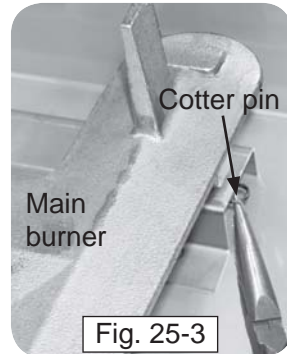

Fig. 25-3
3. Remove the cotter pin from the left or right rear burner anchoring peg by pulling it straight out of the cotter pin hole using fingers or needle-nose pliers (Fig. 25-3).